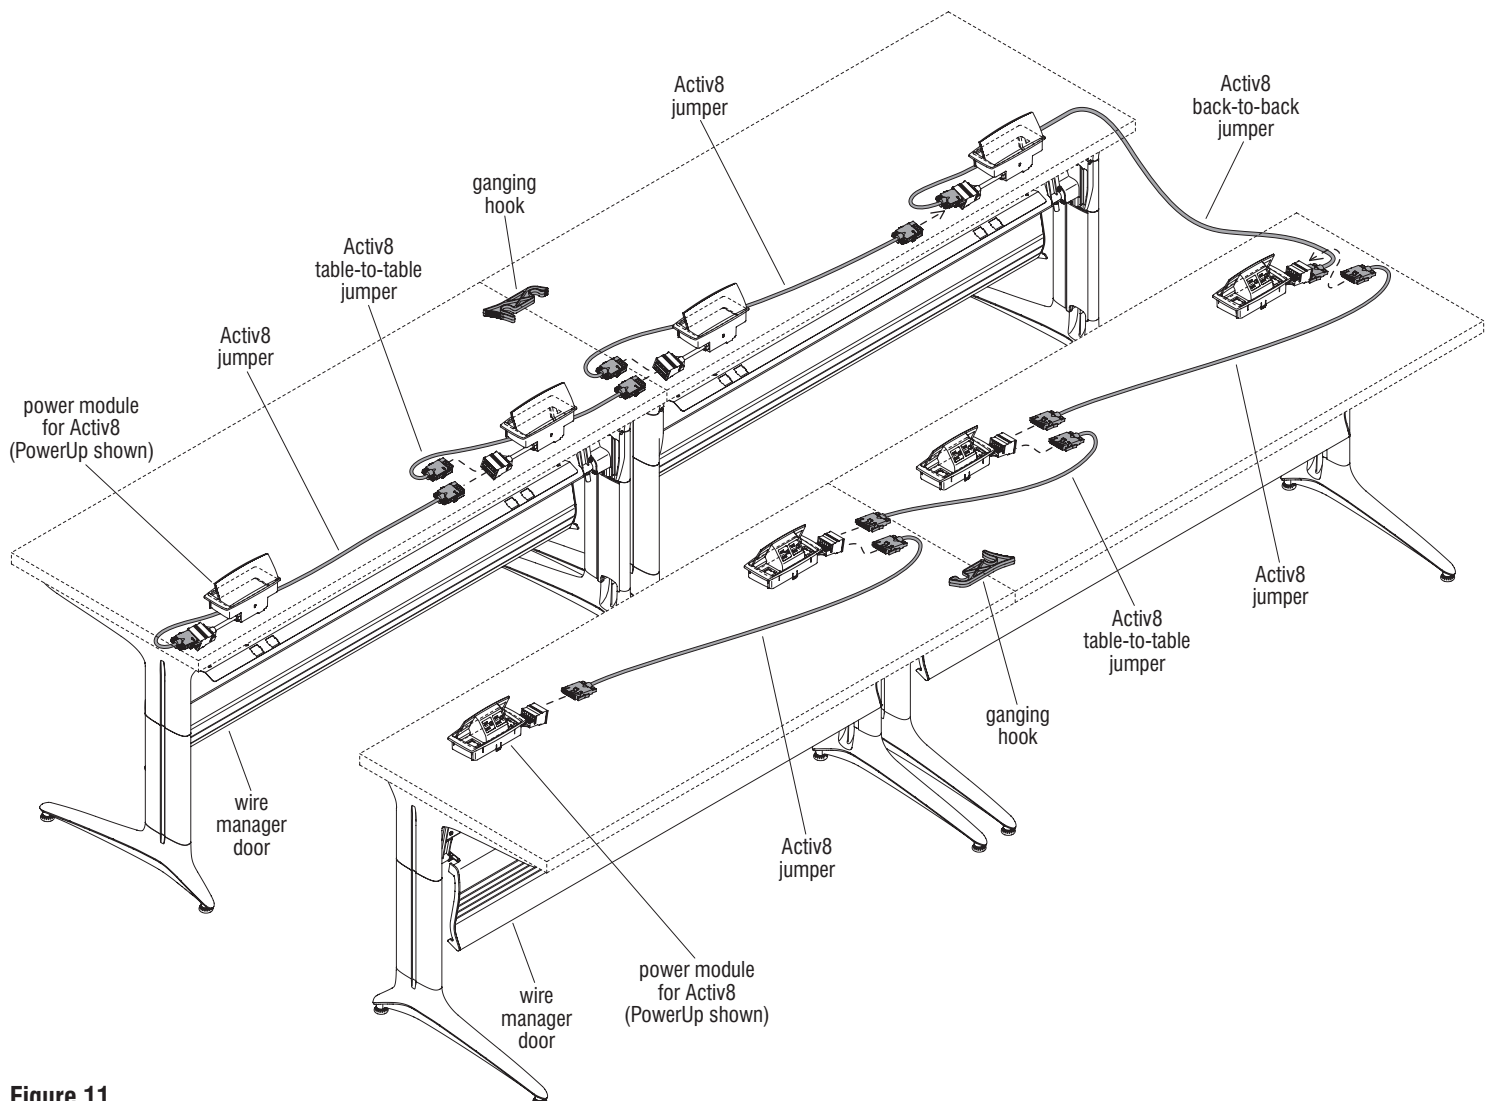

Figure 11
to-back jumper connection installed in step 2, page 24, forming two back-to-back rows. Then, install Activ8 table-to-table jumpers between each of the new tables in each row to each of the first two tables (See "Activ8 Table-to-Table Jumper Installation", page 23). (Figure 11).
4. Repeat this until all the tables in each row are connected (Figure 11).